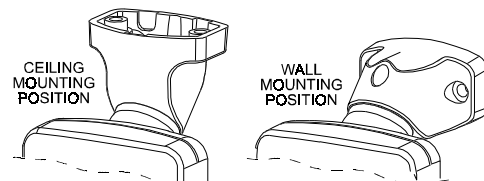

Figure 6. Wall and Ceiling Positions of Bracket
- E. Rotate the bracket to the desired position (see Figure 6) but do not yet tighten the screw fully.